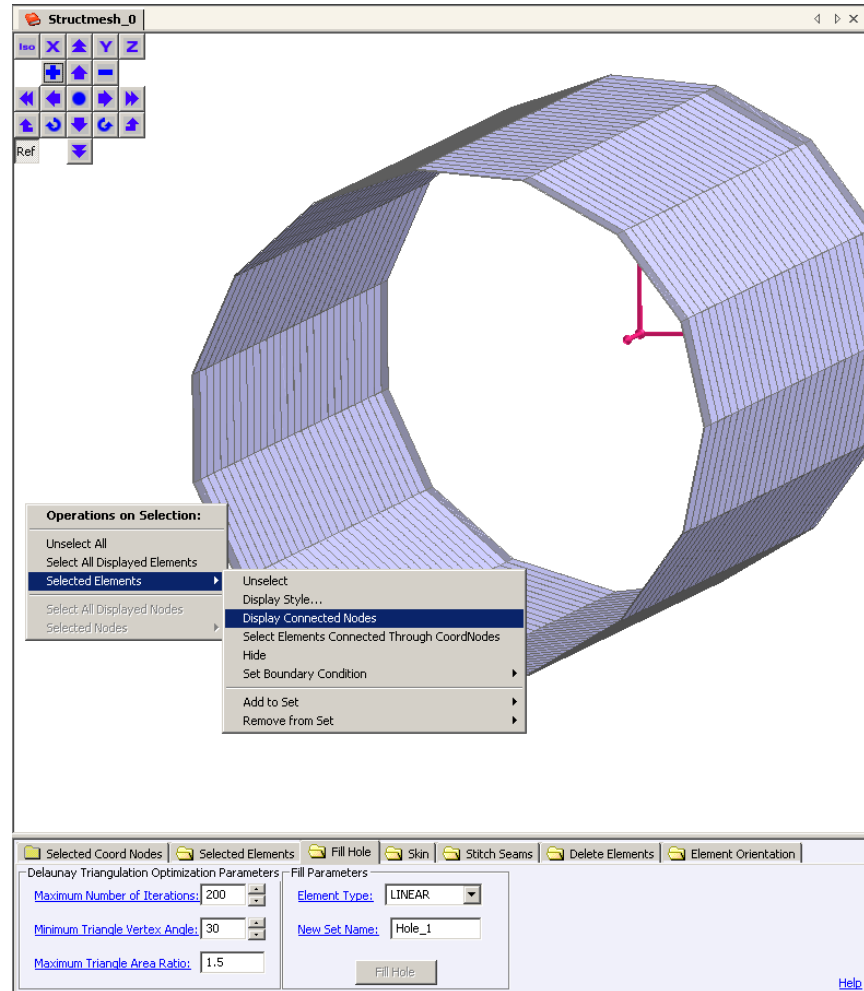

Figure 5.25 Display Connected Nodes
- Display connected nodes for the selected elements. Right-click on the selected elements with the *shift-key* held down and select: **Operations on Selection** → **Selected Elements** → **Display Connected Nodes**. (Figure 5.25)